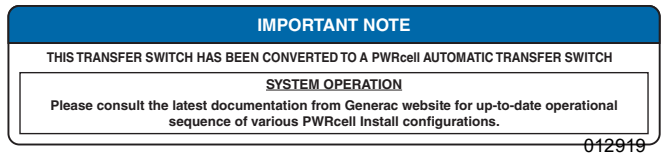

Figure 7. Important Note Decal
- See Figure 7. Place provided “IMPORTANT NOTE” decal just below Operating decal labeled “AUTOMATIC TRANSFER SWITCH FOR USE ON STANDBY SYSTEM.”